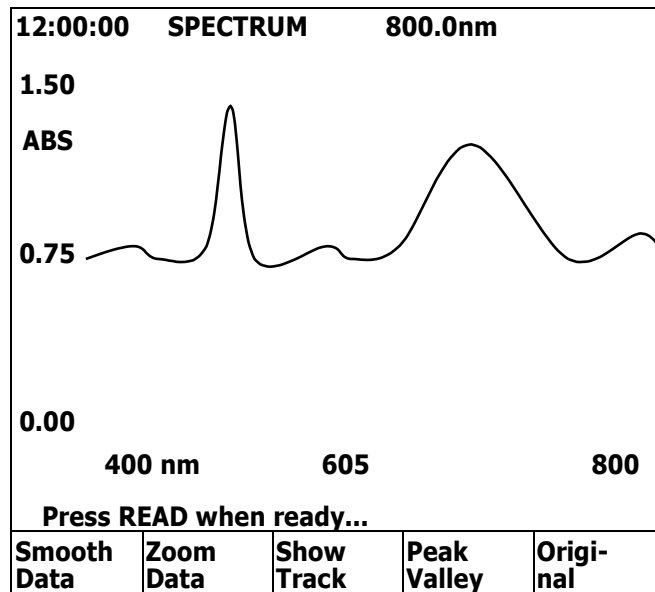

Figure 6.4 Functions for manipulating graph
Step 5. If users want to manipulate data of results, press F2 Manipulate to get into another layer of function keys (Figure 6.4). Then, press F1 Smooth Data and it will smooth the current graph to reduce the effect of noise. To zoom data, go to Step 6; to show track, go to Step 7; and to search peaks and valleys of the graph, go to Step 9.